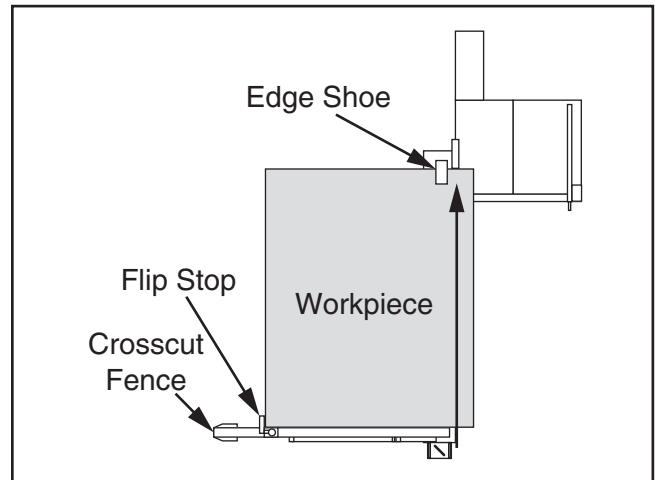

Figure 100. Rip cut with sliding table and crosscut fence.
The Model G0820 has the capability of rip cutting large panels (see **Figure 100**). The sliding table removes the burden of sliding a large and heavy panel over a stationary table surface.
The edge shoe (see **Figure 100**) is used to stabilize the front end of a workpiece when otherwise unsecured.
5. Load workpiece onto table saw. Setup should look similar to **Figure 100 on Page 51**.